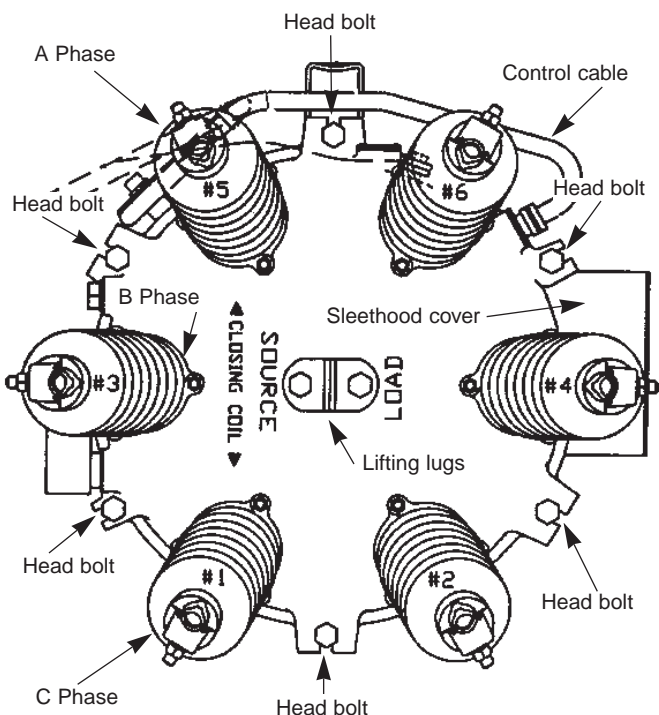
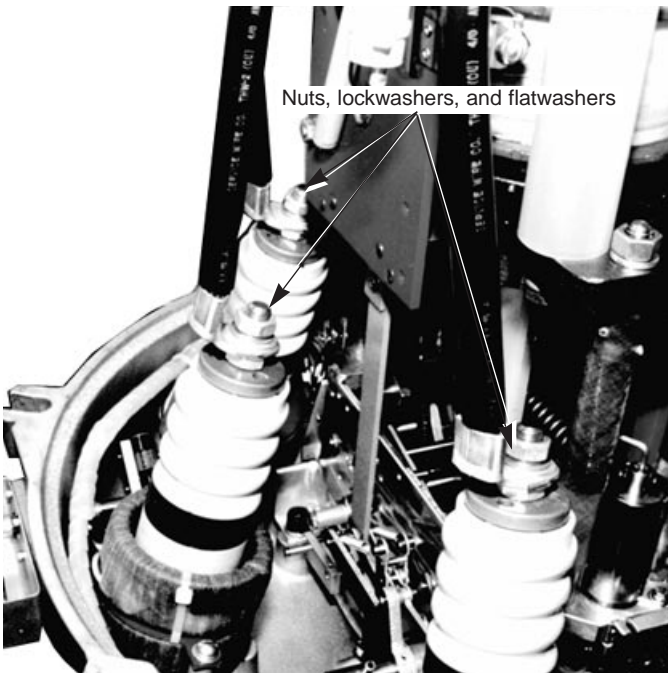

Figure 3.
Figure 6.
2. With the recloser in the Open position, untank the recloser by loosening the six head bolts and washers on the head casting. Carefully lift the head assembly out of the tank using the lifting lugs (refer to Figure 3).
5. Remove the three nuts, bronze lockwashers and flatwashers from the bottom of the bushings on the source-side (refer to Figure 3) and save the hardware (refer to Figure 6).